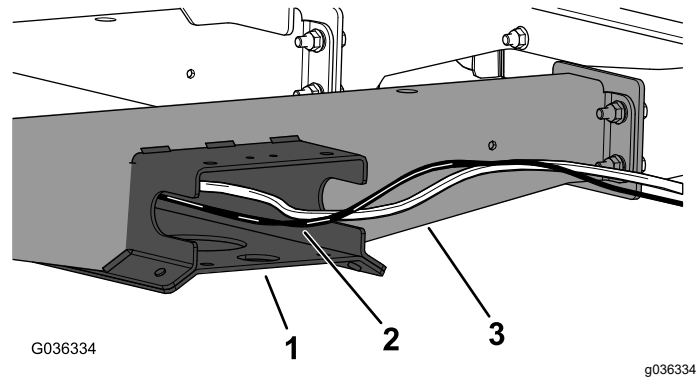

Figure 10
2. Route the kit wire harness along the floor-channel plate and through the opening in frame channel (Figure 10).